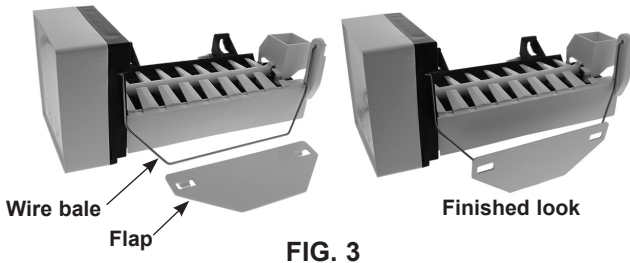

FIG. 3
3. If your old ice maker came with a flap on the wire bale, attach the new flap to the new ice maker as indicated in Figure 3.